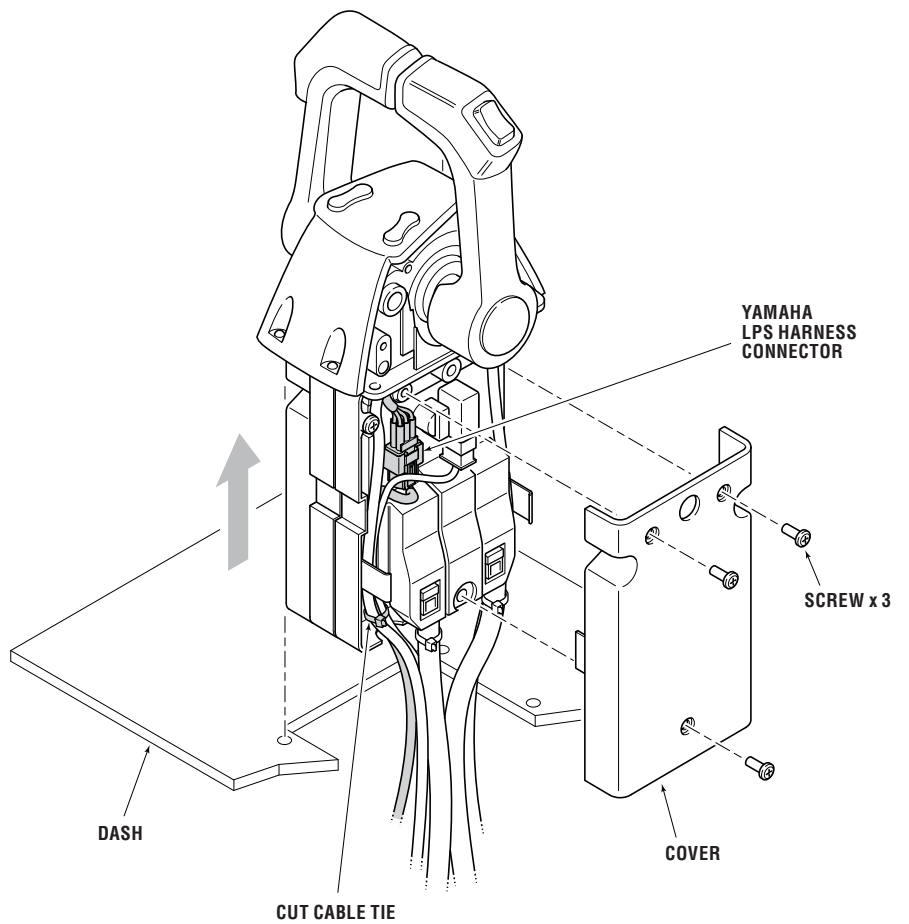

Figure 7-2. Cover removal and LPS harness identification.
4. Remove the control head from the dash far enough to expose the cover mounting screws. (Refer to figure 7-2. Port side is shown.) Both sides will need to be removed, but it is recommended that you proceed with one side at a time. **Be sure to support the control head so that the harnesses are not under strain.**
5. Cut the cable tie securing the harnesses to the binnacle chassis. (Refer to figure 7-2.)
6. Disconnect the Yamaha LPS harness. The port harness will be identified with a 'P' and the starboard harness will be identified with an 'S'. (Refer to figure 7-2.) Triples and quads: There will be harnesses labeled CP and/or CS. You will not use these harnesses for a triple, but you will need to connect them for a quad. *Disconnect only one harness at a time.* The connectors are only labeled on one end, and it is very easy to mix them up if both are disconnected.